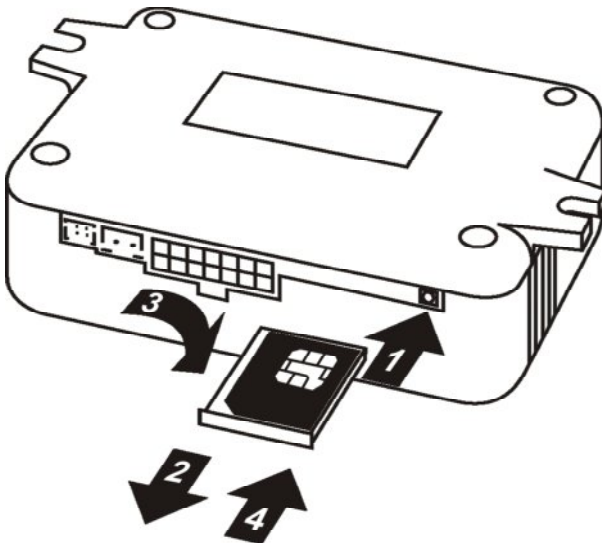

Figure 3
Install SIM card into the GSM-module, as shown at the figure 3. The operation should be performed with unplugged power from the GSM-module. Press with a thin blunt object (philips screwdriver, pen, etc.) on the SIM-holder ejector pushbutton (1), pull for the SIM-holder and pull the holder out of the housing (2) . Then put the SIM into the holder to commit (3) and insert the holder back to the housing up to the stop (4).